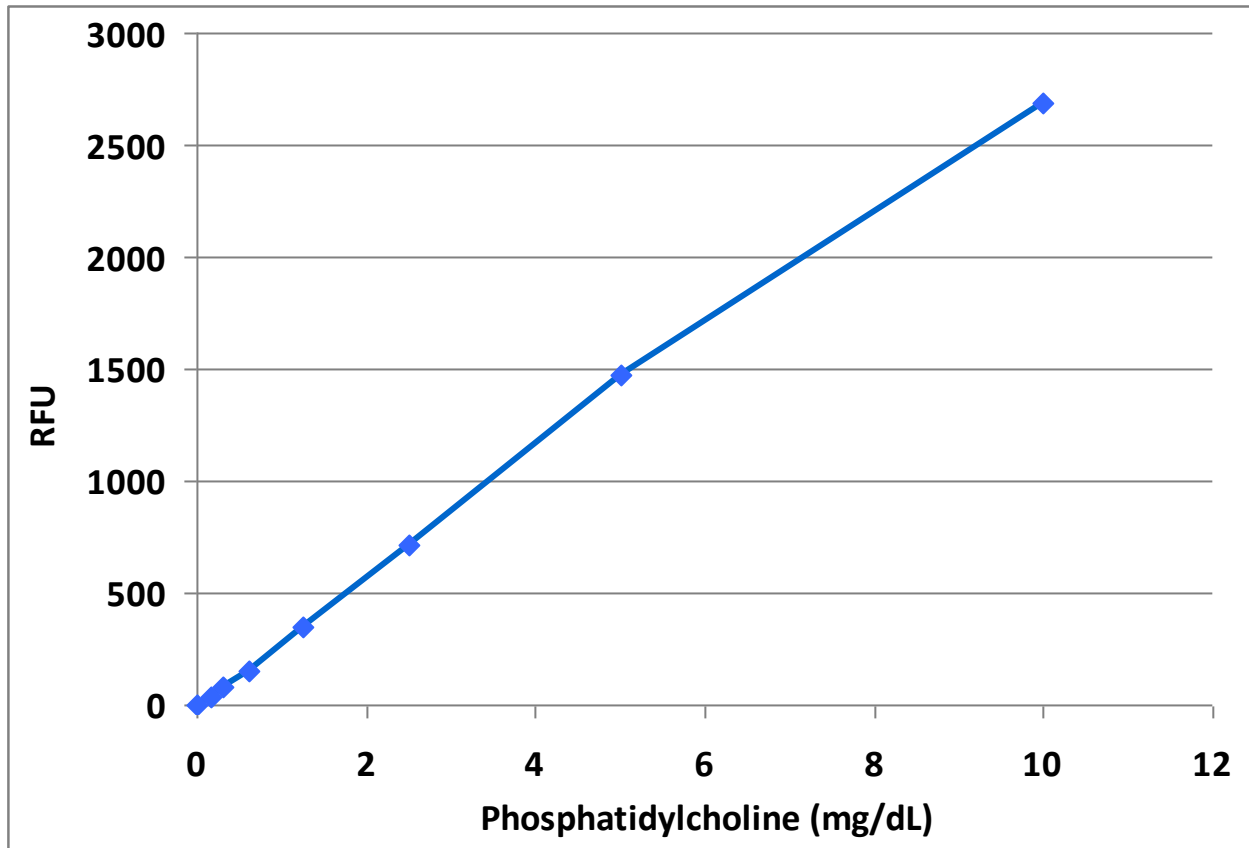

Figure 2: Phosphatidylcholine Standard Curve.
2. Plot the corrected fluorescence for the standards against the final concentration of the phosphatidylcholine standards from Table 1 to determine the best curve. See Figure 2 for an example standard curve.